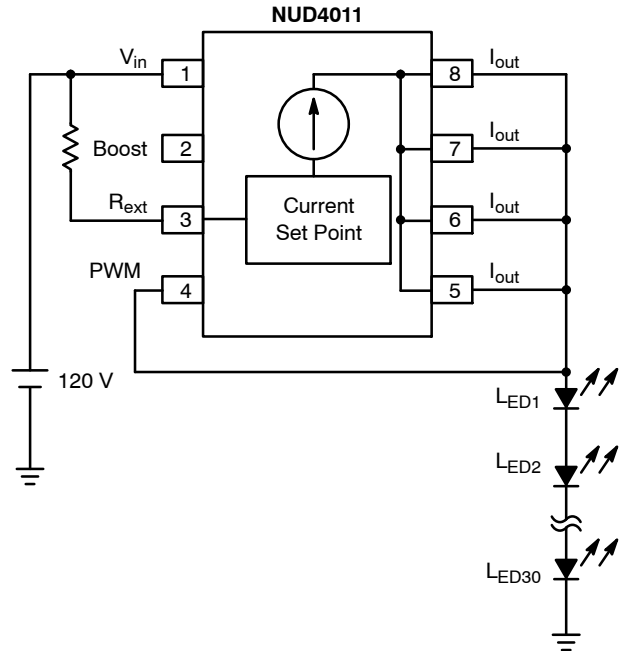

Figure 5. 120 V Application (Series LED's Array)
3. Device's pin 4 connected to the LEDs array (as shown in Figure 5).
- A Per example in Figure 5, $V_{in} = 120 \text{ Vdc}$
4. Define $V_{LED} @ I_{LED}$ per LED supplier's data sheet: per example in Figure 5,
A Per example in Figure 5, $V_{in} = 120 \text{ Vac}$